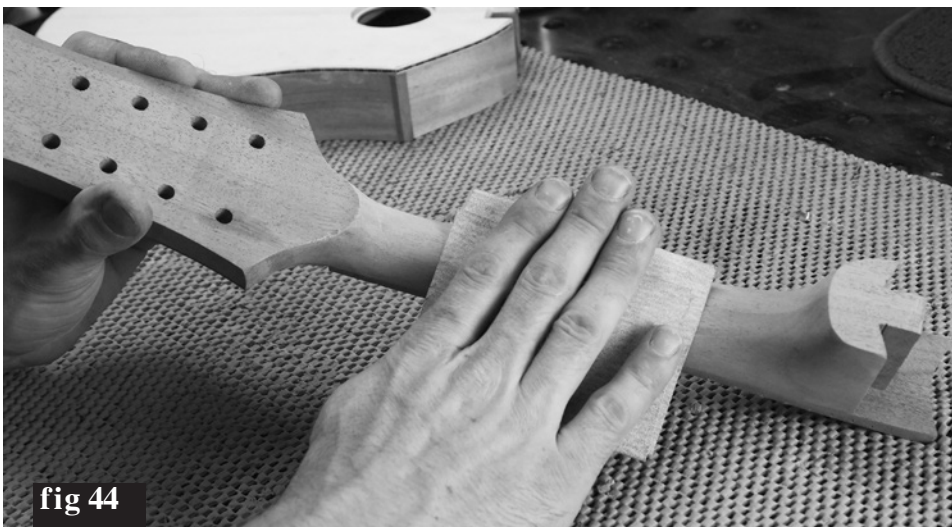

fig 44
**44.** When the major shaping is done, switch to hand sanding, with the grain, beginning with 80 grit paper and then 150 grit to remove your tool scratches (fig 44).